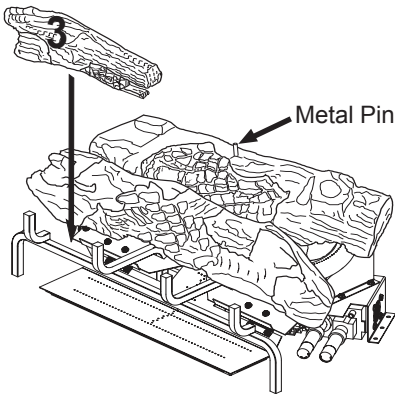

Figure 30- Installing Log # 3
3. Place the front left log (#3) onto the base assembly between the middle log and the grate. The back of the front left log will rest against the front of the middle log. The notch in the end of the front left log will fit around the grate bar. See Figure 30, page 20.